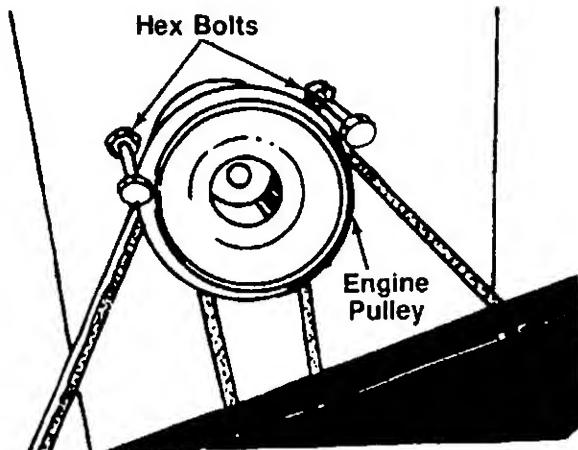

FIGURE 23.
NOTE: Figures 23 through 25 are shown with the unit tipped up for clarity. It is not necessary to tip the unit to remove the belts.
- Remove the hex bolts (belt keepers) from the engine pulley belt guard. See figure 23.
NOTE: When reassembling, make certain hex bolts are assembled in the same locations from which they were removed. See figure 23.